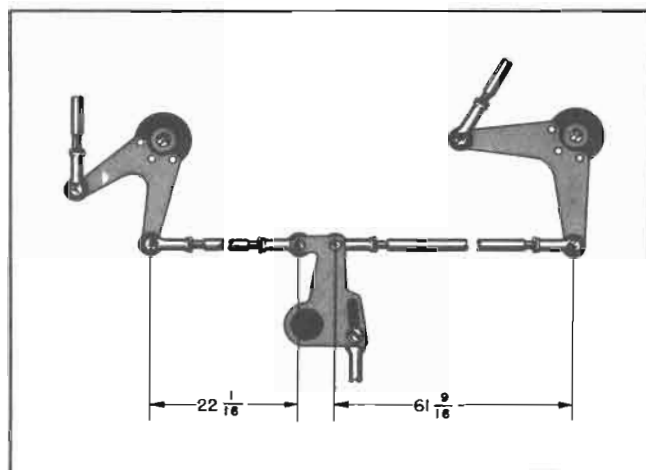

Figure 116 — Inboard Control Rod Adjustment
6. Obtain a length of $22\frac{7}{16}$ inches from the center of the outboard rod-end fitting hole and the inboard rod-end fitting hole. Connect it to the vertical bell crank in the left wheel well. Obtain approximately $61\frac{9}{16}$ inches from the center of the rod-end fitting hole to the center of the opposite rod-end hole on the right inboard control rod. (See figure 116.)